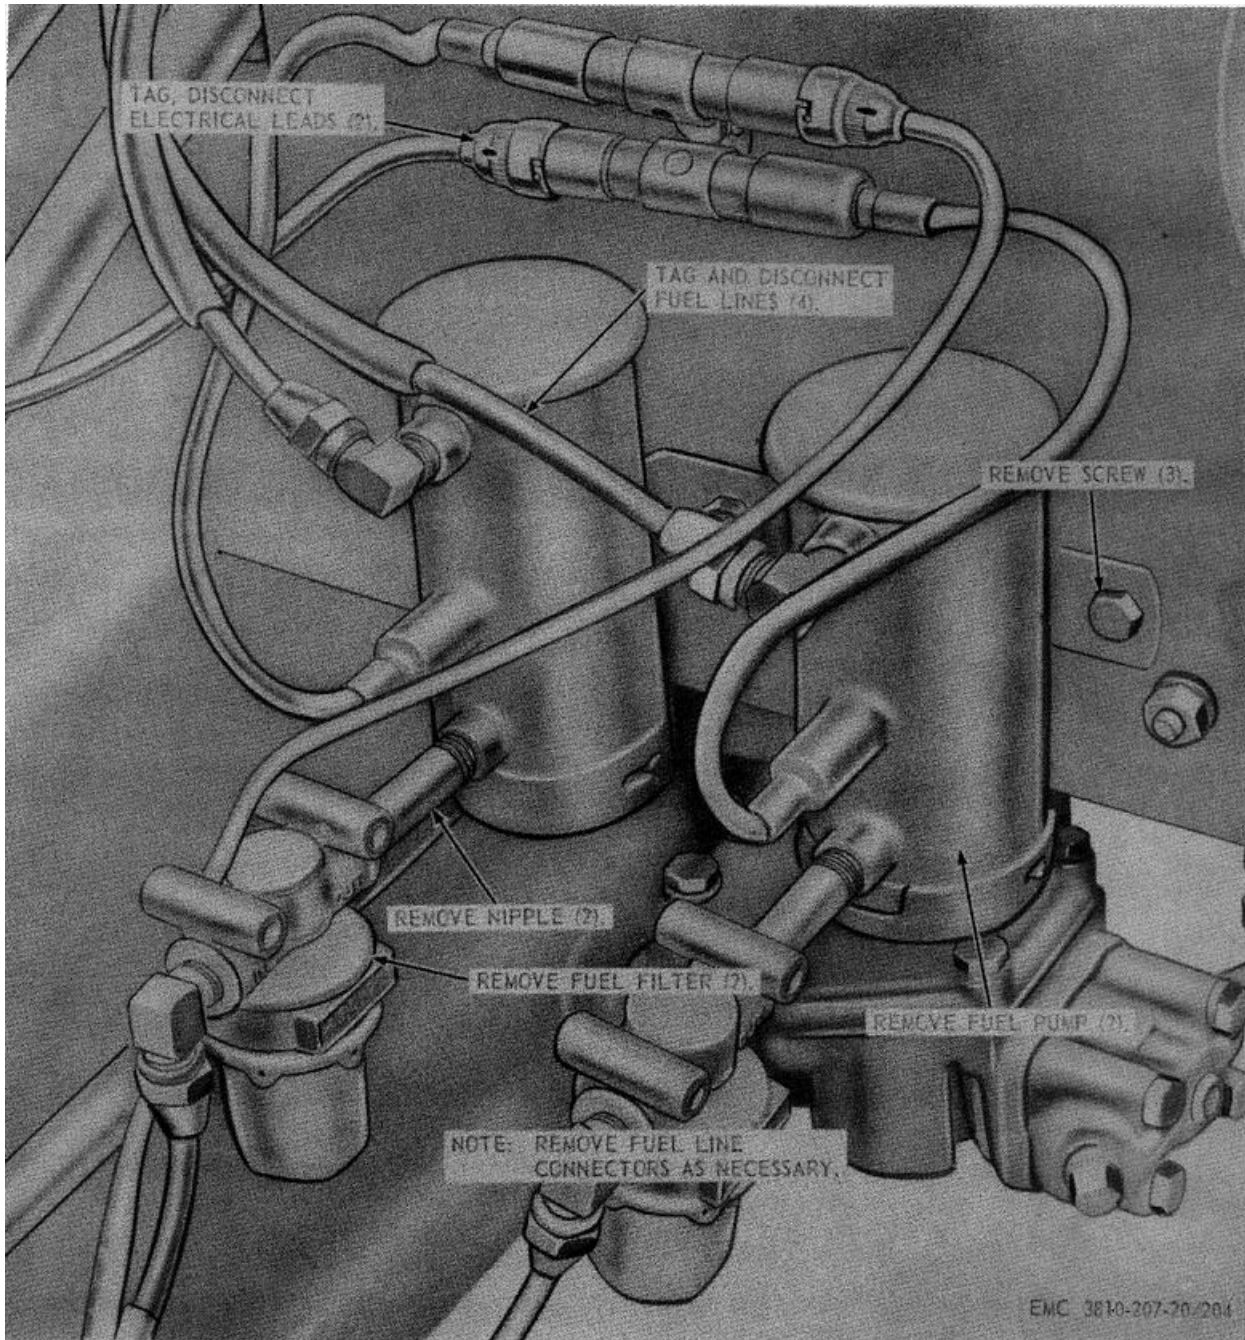

Figure 204. Fuel pumps and filters, removal and installation.
a. Removal. Remove the fuel pumps and filters as instructed on figure 204.
- (1) Clean all parts with an approved cleaning solvent and dry thoroughly.
- (2) Inspect all mounting hardware for damage. Replace damaged mounting hardware as necessary.
- (3) Inspect the fuel pumps and filters for breaks, bends, and other damage. Replace fuel pumps and filters as necessary.
- (4) Inspect the fuel pump for proper operation. Replace a defective fuel pump.
c. Installation. Install the fuel pumps and filters as illustrated on figure 204.